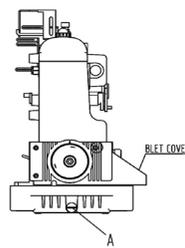
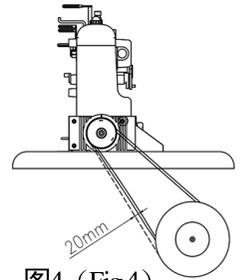
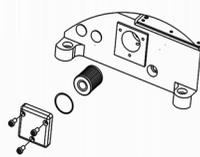

图3 (Fig.3)
图4 (Fig.4)
图7 (Fig.7)
2、马达转向为顺时针方向，皮带的松紧度以手指向内压下20mm宜为，同时为安全起见，把皮带轮盖必须锁上。（图3&4）
2、Mount the machine head over the rest board Connect the machine hand wheel to the clutch motor with the V-belt.Adjust the tension of the V-belt so that it can be about 20 mm bent inward when you presse the center of V-belt and make sure the clutch motor turning direction is clockwise as shown Figure 3.Install the belt cover according to Figure 4.
(2) 润滑油的更换 (图3)
(3) 滤油器的更换 (图7)
- Loosen Knob (A) fill in with accompanied super-high-speed lubricant oil its equivalent such as Mobil#10 or #32,until the oil up be-fween two marks :(Fig.3)
2. Lubricant oil change :(Fig.3)
- Loosen Knob (A) drain oil from the tank, then tight it up.
3. Replacing oil filter: (Fig.7)